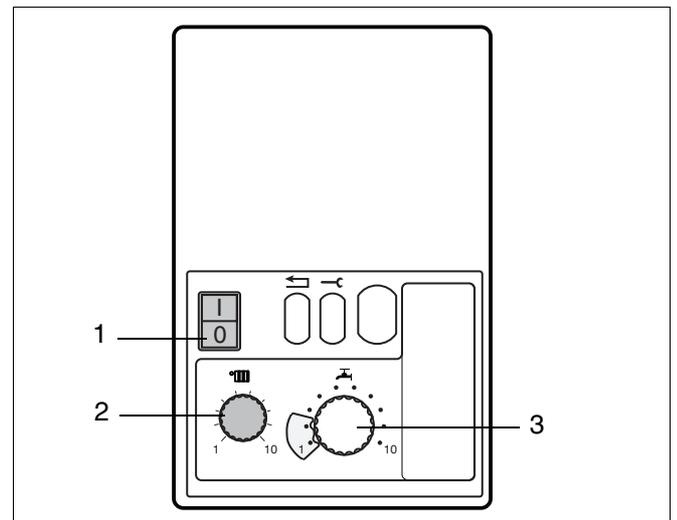

Fig. 2 Control panel
- Press the mains switch (see fig 2, item 1) on the control unit to "I" to light the boiler.
- Set flow temperature at the control unit (fig. 2, item 2) (see table 1).
- Push the mains power switch (fig. 2, item 1) to "I". The boiler runs through the start-up programme and the burner is ignited after approx. 30 seconds.
Knob pos. 3 in fig. 2 is used for service purposes only.